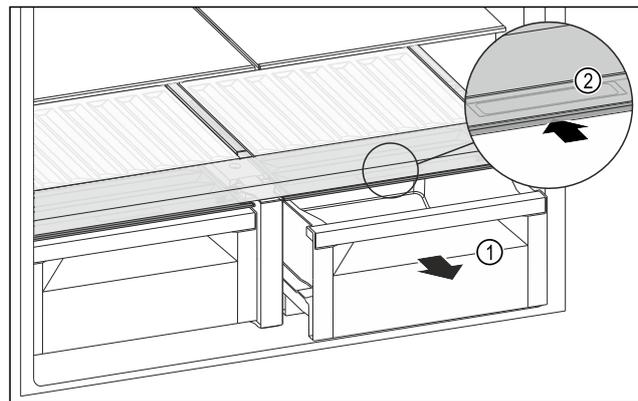

Fig. 132
- ▶ Pull out the drawer Fig. 132 (1).
- ▶ Grasp the recessed grip Fig. 132 (2) on the compartment lid and push the compartment lid backwards at the same time.